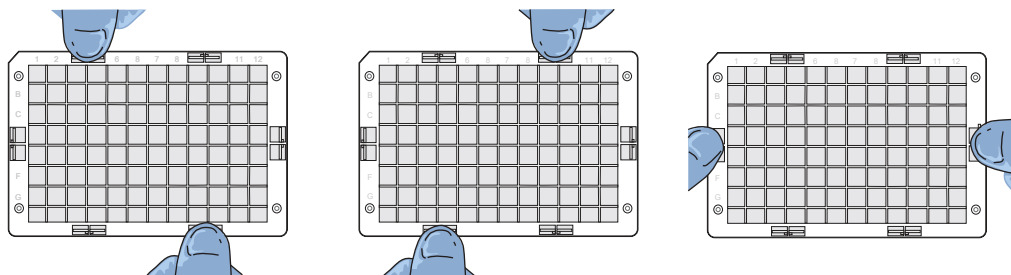

Figure 38 Clamping verification steps.
5. Verify the plate clamping step to ensure that the array plate is securely fastened to the hybridization tray. Remove the plate stack from the drawer and place on a bench top. Using your thumbs, press the array plate downward following the positions that are specified in Figure 38. *No clicking sound indicates proper clamping.*